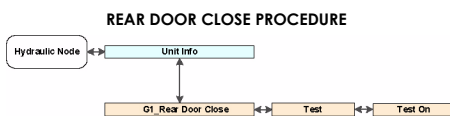

Fig. 8 Rear Door Open/Close Procedure
3. Using the scroll up/down switches, select the HYDRAULIC NODE and press enter then refer to Fig. 8.